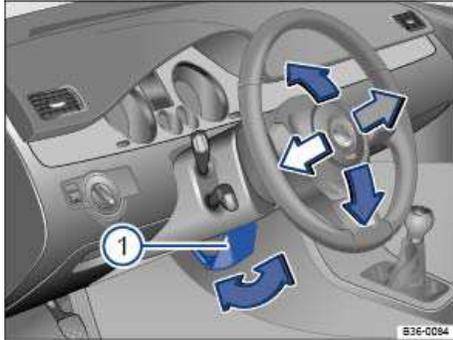

Fig. 52 Manual adjustment for the steering wheel position.
- Pull the lever down ⇒ fig. 52 \(1\).